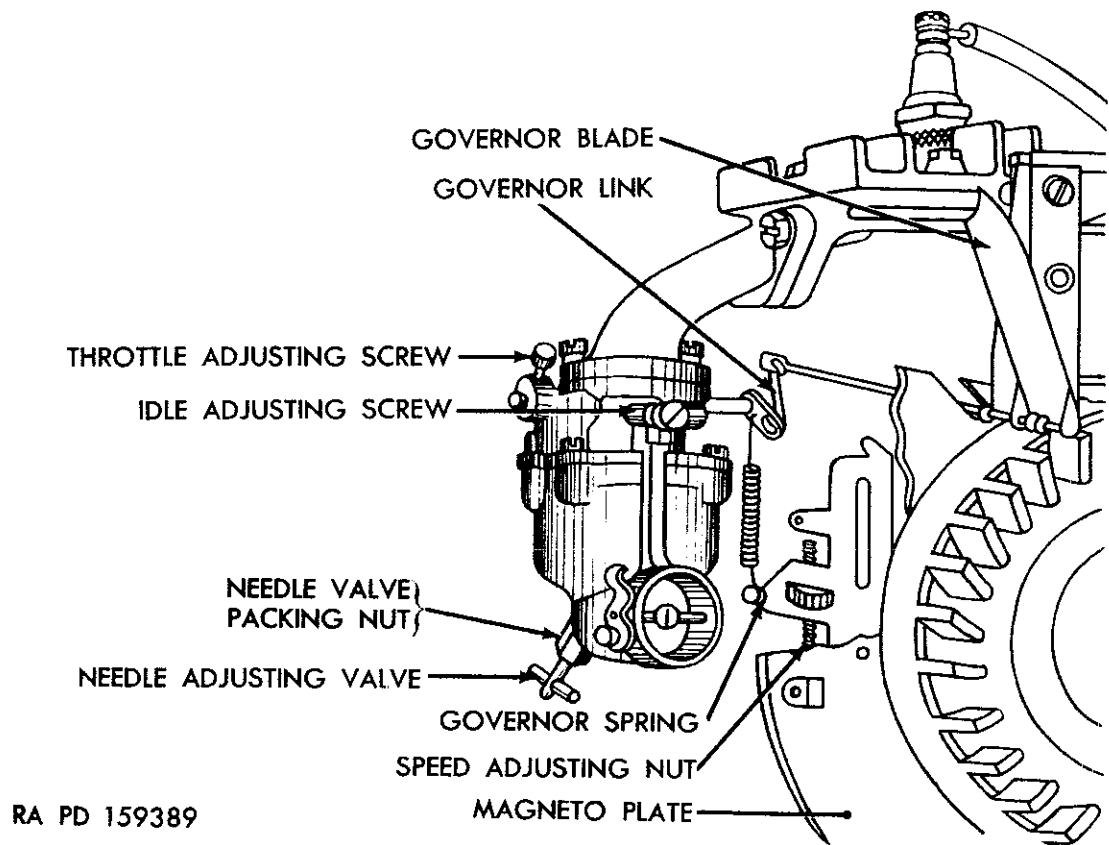

Figure 56. Adjusting points on carburetor.
- (1) Unscrew needle valve packing nut (fig. 56) from carburetor; withdraw nut with needle adjusting valve attached.
- (2) Unscrew needle adjusting valve from needle valve packing nut. Clean as required.